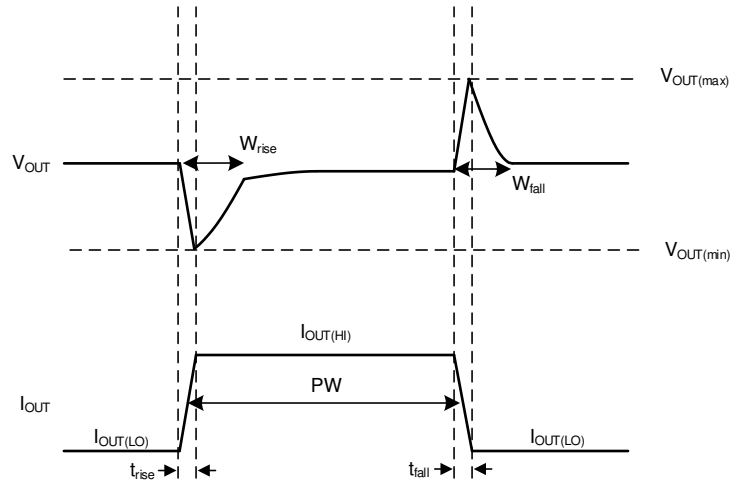

图 9-10. Simplified Load Transient Waveform
The transient response peaks ( $V_{OUT(max)}$  and  $V_{OUT(min)}$ ) are improved by using more output capacitance; however, doing so slows down the recovery time ( $W_{rise}$  and  $W_{fall}$ ). 图 9-10 shows these parameters during a load transient, with a given pulse duration (PW) and current levels ( $I_{OUT(LO)}$  and  $I_{OUT(HI)}$ ).